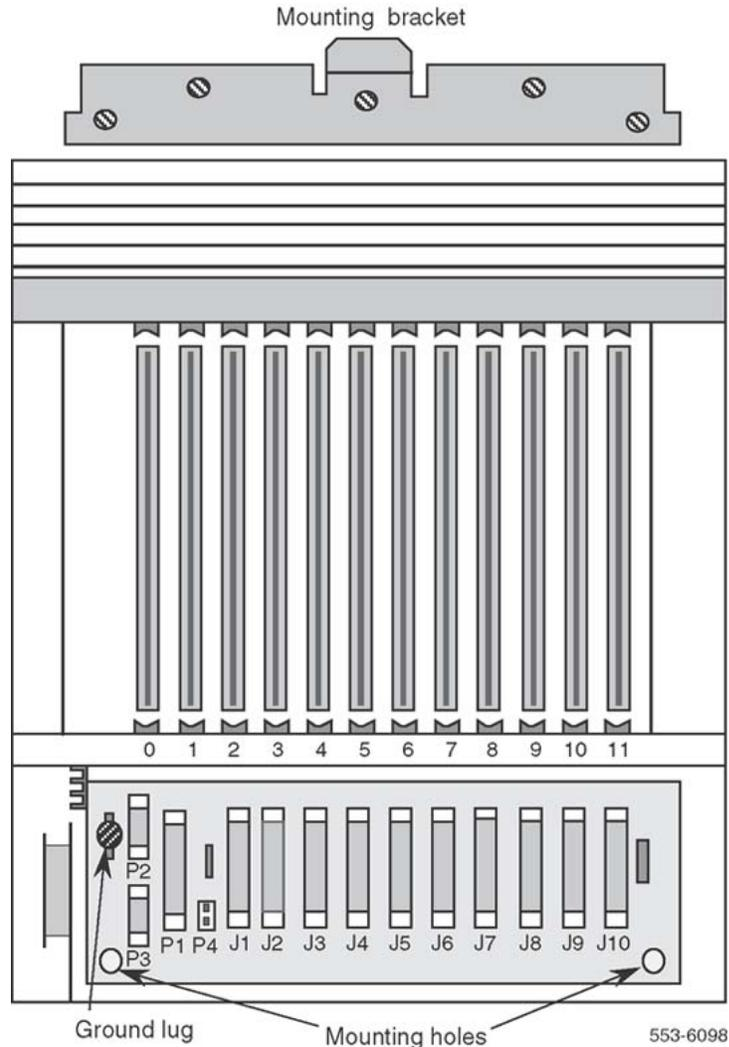

Figure 14: Fiber Remote IPE cabinet
2. Level and install the mounting bracket on the wall as shown in Figure 14: Fiber Remote IPE cabinet on page 62.
The slot is located at the top center of the cabinet as shown in Figure 14: Fiber Remote IPE cabinet on page 62.
See Figure 14: Fiber Remote IPE cabinet on page 62 for the location of the screw holes.
Figure 14: Fiber Remote IPE cabinet on page 62 shows the Fiber Remote IPE cabinet with the mounting bracket and the mounting holes. It also shows the ground lug for ground connection.